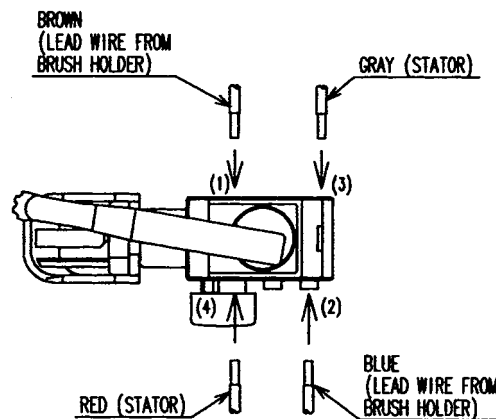

Fig. 10 Wiring of reversing switch
Insert the lead wire (brown) coming from the brush holder into the terminal (1) of the reversing switch, and the lead wire (blue) into the terminal (2) as shown in Fig. 10. Insert the lead wire (gray) coming from the stator into the terminal (3) and the lead wire (red) into the terminal (4). After insertion, pull each lead wire slightly to check that the lead wires do not come off. To disconnect the lead wires, insert a small flat-blade screwdriver into the slots near the terminals and pull out the lead wires.